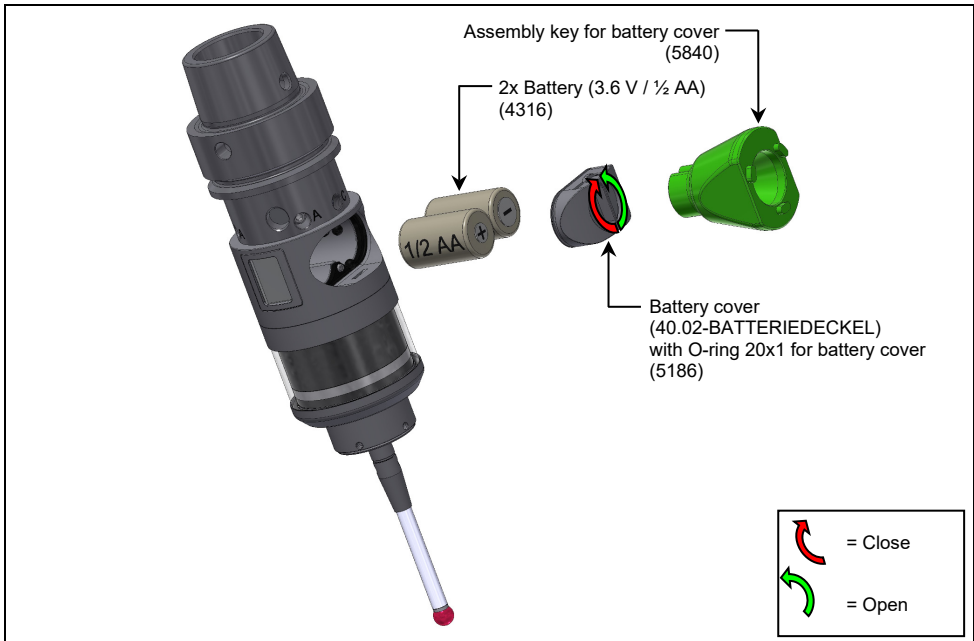

Fig. 10 Replacing batteries
3. Insert new batteries **alternately** into the battery compartment (refer to Fig. 10) and insert the battery cover into the housing.